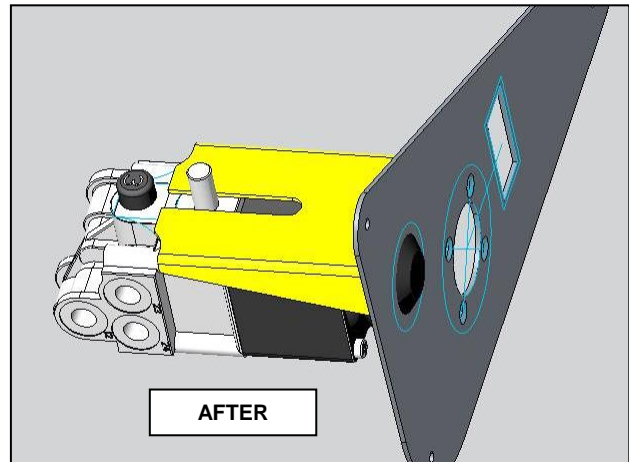

Figure 8
- For installations in the front entrance: to improve the alignment of the rubber of the new valve with respect to the panel opening, cut a piece of the bracket as illustrated in figure 8.